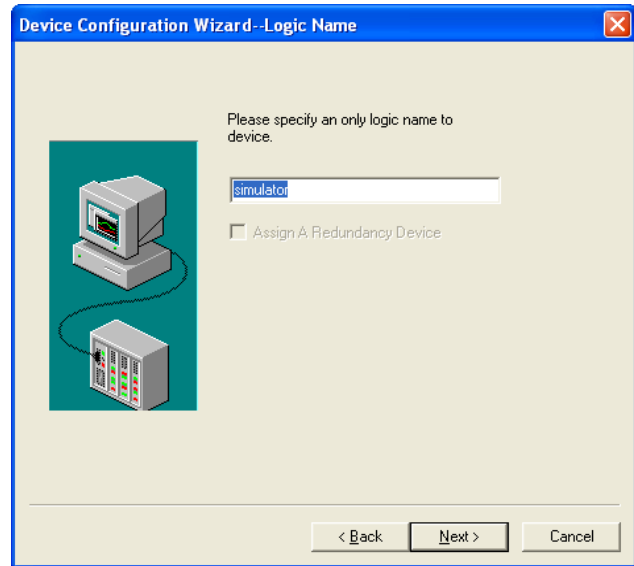

Fig. 13 Device Configuration Wizard-3
2. Input a valid name for this "device", "simulator" for example. (See Fig. 13);